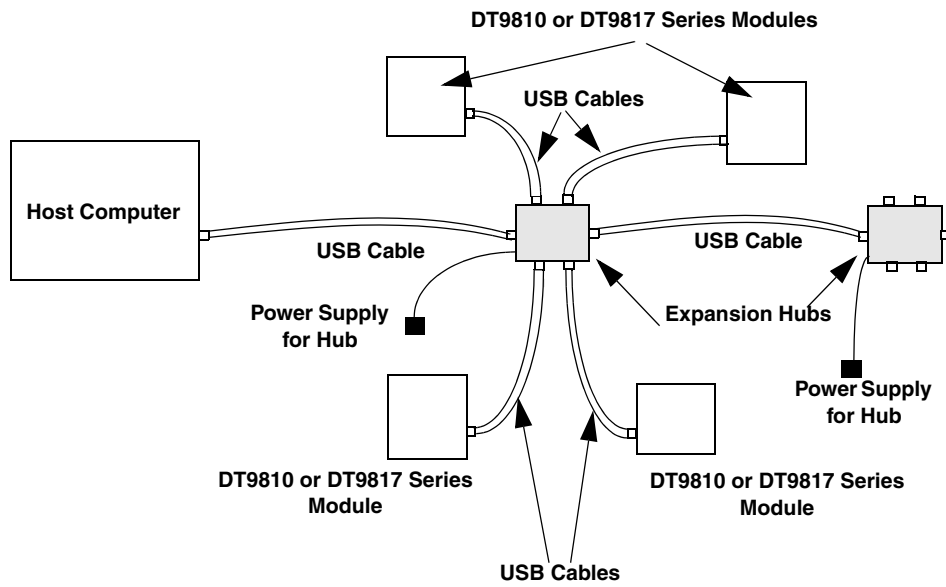

Figure 3: Attaching Multiple Modules Using Expansion Hubs
5. Repeat these steps until you have attached the number of expansion hubs and modules that you require. Refer to Figure 3.